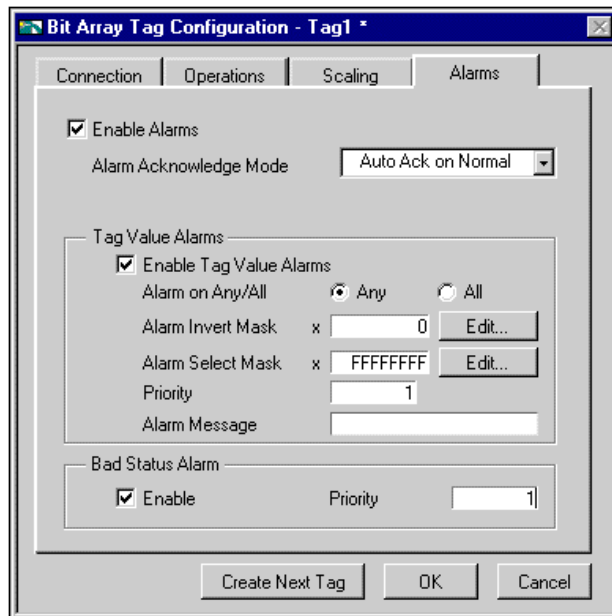

Figure 3-9. Alarms for Bit Array Tag Configuration
You can enable one of two types of alarms for bit array tags. Alarm on Any indicates that the overall tag is in alarm if any of the bits are in alarm state. Alarm on All means that the overall tag is in alarm only if all of the bits are in alarm state. You can use the Invert Mask to determine the bits that should use alarm on low (OFF) rather than the default alarm on high (ON). You can use the Select (AND) Mask to determine the bits that should be considered for the alarm. If you have bits in the Select Mask that are zero (OFF), these bits are not used in calculation of the tag alarm state. Figure 3-9, *Alarms for Bit Array Tag*